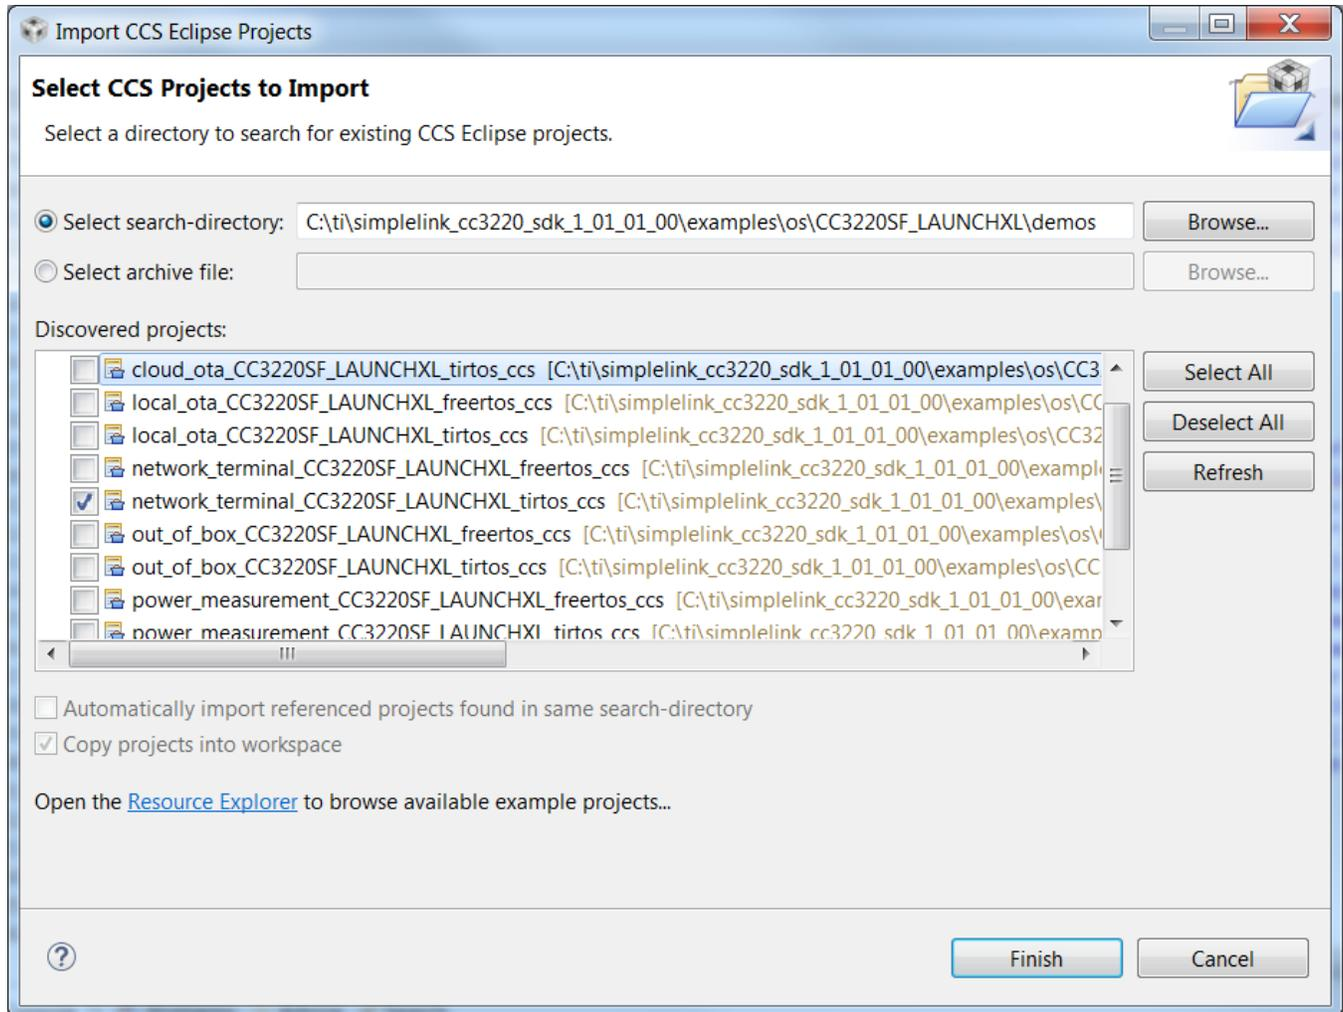

Figure 2-2. Select wlan_station Projects
4. Select the `network_terminal_CC3220SF_LAUNCHXL_tirtos_ccs` project and click Finish (this will automatically import also the dependent `tirtos_builds_CC3220SF_LAUNCHXL_custom_ccs` project), as shown in Figure 2-2. For any library import (such as `simplink` or `driverlib`), do not check the Copy projects into workspace checkbox. This breaks the link from the libraries to their dependencies. The network terminal project is automatically copied to the workspace.